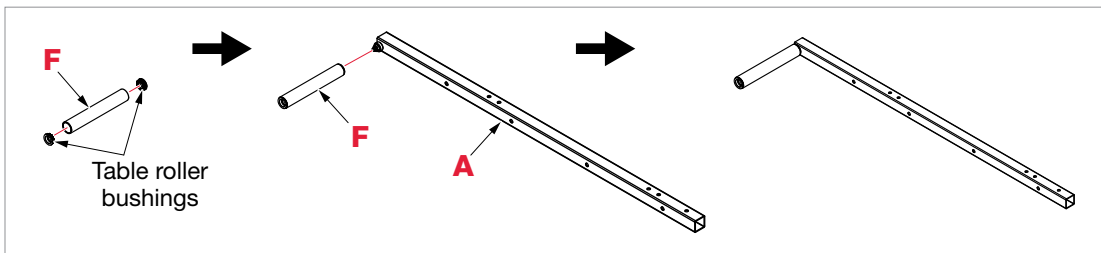

Fig. 5
- 2 Press a table roller bushing into each end of the large table roller (**F**), then press the other side of one of the table roller bushings onto one of the ball bearings you just attached to a table tube. Do not attach the large table roller to the other ball bearing yet (see Fig. 5).